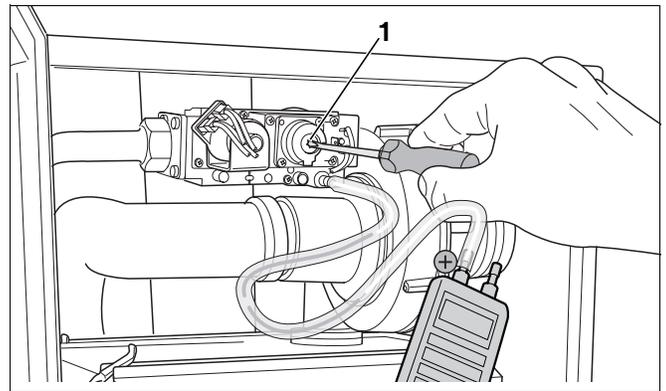

Fig. 62 Adjusting the gas/air ratio
- If the gas/air ratio is incorrect, it must be adjusted on the set screw (fig. 62, pos. 1). The set screw is located behind the screw-on cover.